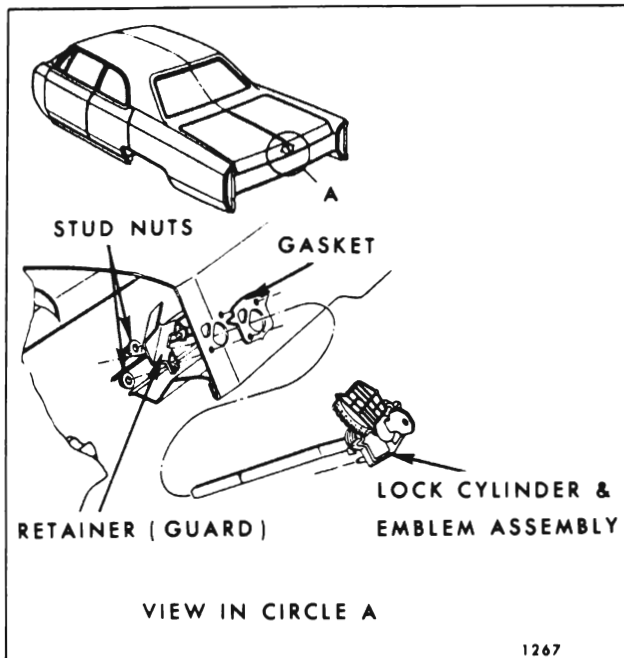

Fig. 8-10 - Rear Compartment Lid Lock Cylinder and Emblem Assembly
3. Remove guard through access hole, then remove compartment lid emblem and lock cylinder assembly from lid outer panel (Fig. 8-10).